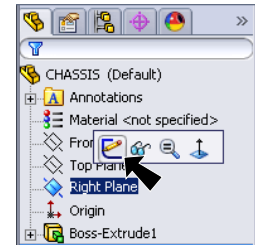

Fig. 7
Step 1. Click **Right Plane**  in the Feature Manager and click **Sketch**  from the Content toolbar, **Fig. 7**.